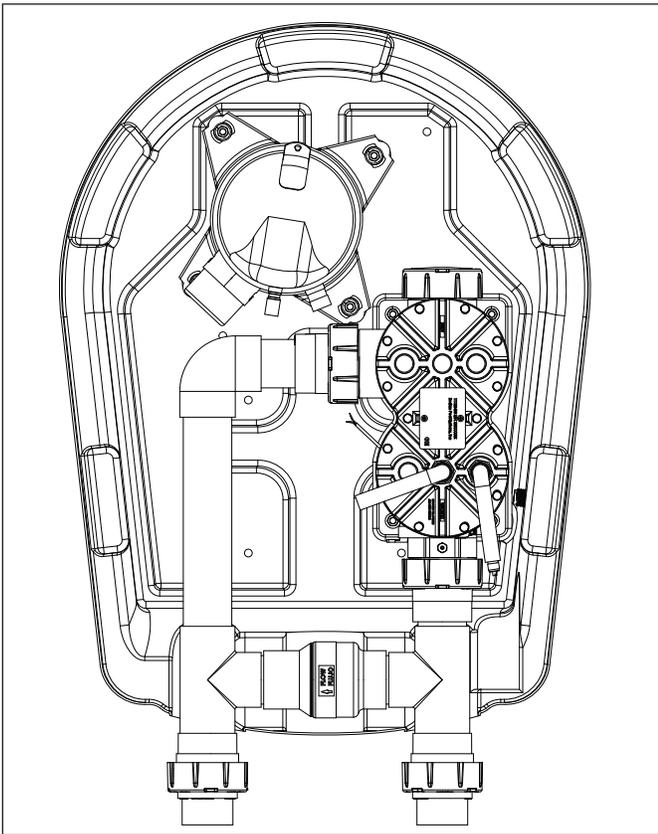

Figure 9. EE1500 Base Layout
1. Place the heat exchanger on the right side of the base and connect the inlet and outlet of the heat exchanger to the plumbing tree. See Figure 9.